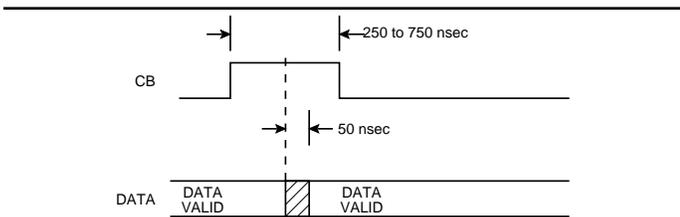

FIGURE 20. CONVERTER BUSY TIMING
The Converter Busy (CB) signal indicates that the tracking converter output angle is changing 1 LSB. As shown in FIGURE 20, output data is valid 50 ns maximum after the middle of the CB pulse. CB pulse width is $1/40 F_s$, which is nominally 375 ns.